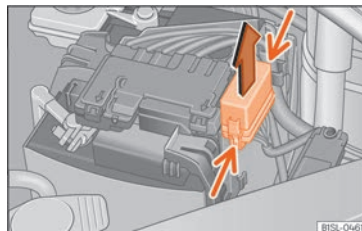

Fig. 46 In the engine compartment: lid of the fuse box.
- Press the locking tabs to unlock the fuse box cover »» Fig. 46.